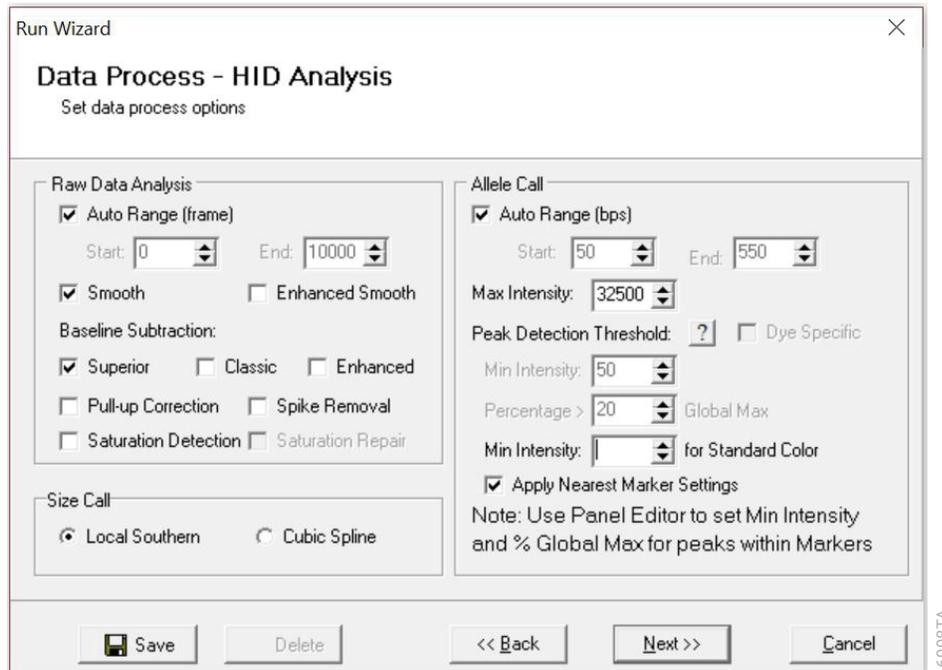

Figure 29. The 'Data Process' window for an analysis method.
- The 'Data Process' window will appear (Figure 29). For the Raw Data Analysis, we recommend using Auto Range, Smooth, Superior Baseline Subtraction and Local Southern for the Size Call.